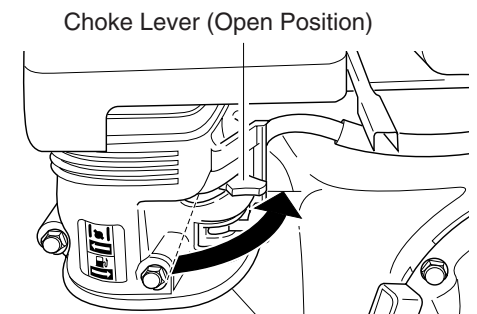

Figure 23 - Choke Lever Opened (Model MGH7000C Shown)
5. As engine warms up, slowly move choke lever fully to the right (see Figure 23). This opens the choke. On Model MGH10000, the choke will automatically open.